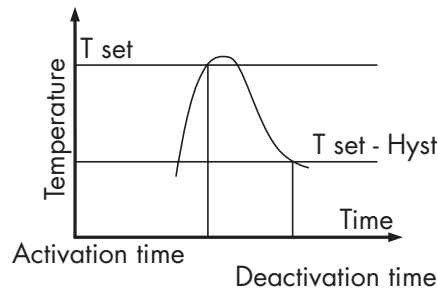

Figure 5 Hysteresis for cooling
- Hyst set: only turns off when the measured temperature $\leq T_{set} - Hyst$, see **Figure 5**.